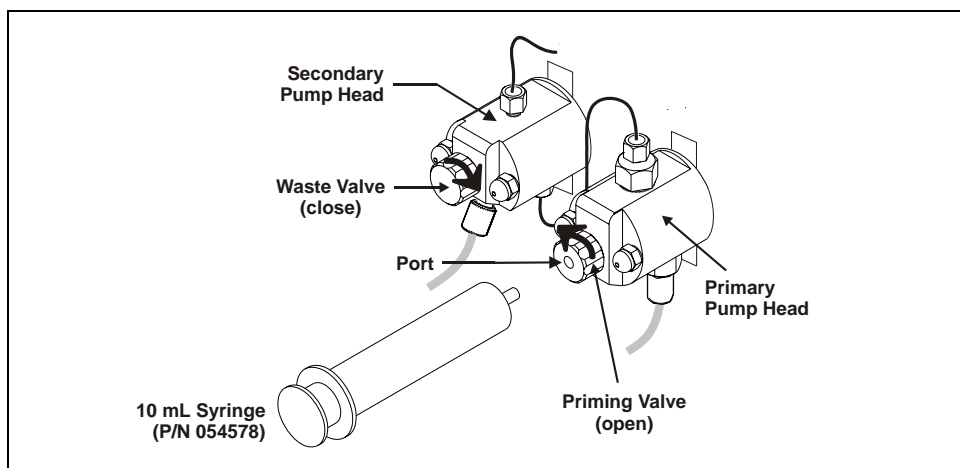

Figure 33. Pump Head Valve Settings for Priming the Eluent Lines
2. Connect a 10 mL syringe (P/N 054578) to the priming valve port on the primary pump head (see Figure 33).